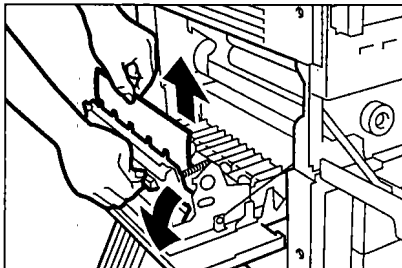

Figure 1-19
- 1) Open the left door, and remove the jam through the outlet of the delivery assembly as shown in Figure 1-19.